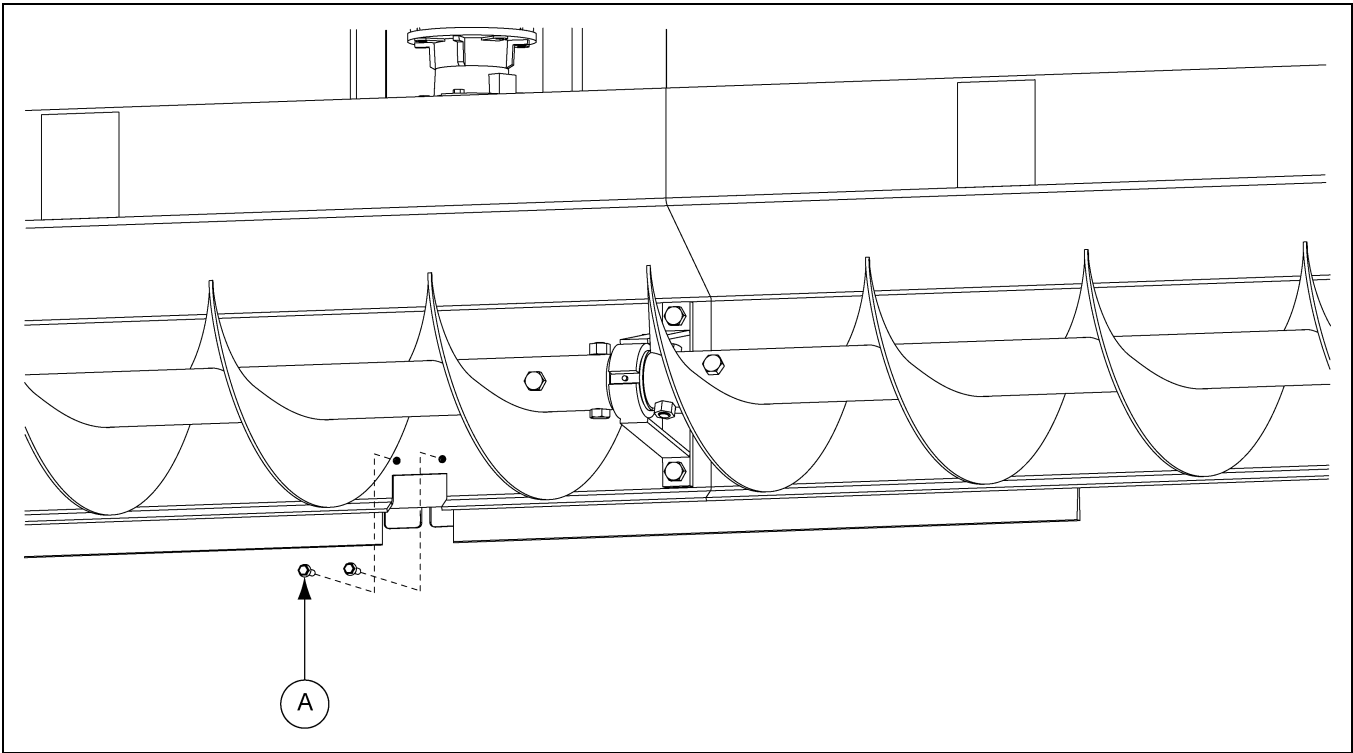

Figure 70
- 1. Install flange bolts (A) though the front of the sweep shield. *(See Figure 70.)*